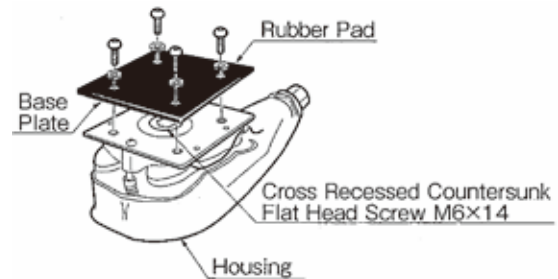

Fig. 10
- 1) Loosen 4 screws (Cross Recessed Pan Head Screw with Spring Lock Washer M4 x 8) and remove the Rubber Pad. (Fig.10)
- 2) Loosen Cross Recessed Countersunk Flat Head Screw M6 x 14 of the Base Plate and remove the Base Plate from the End Plate. (Fig.10)